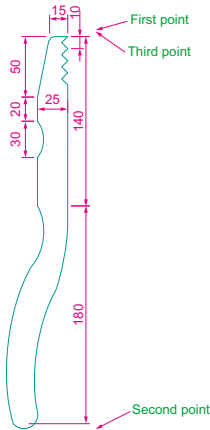

Fig. 14.16 First example – **3D Mirror** – outline of object to be mirrored
1. Working on a layer colour green, construct the outline Fig. 14.16.